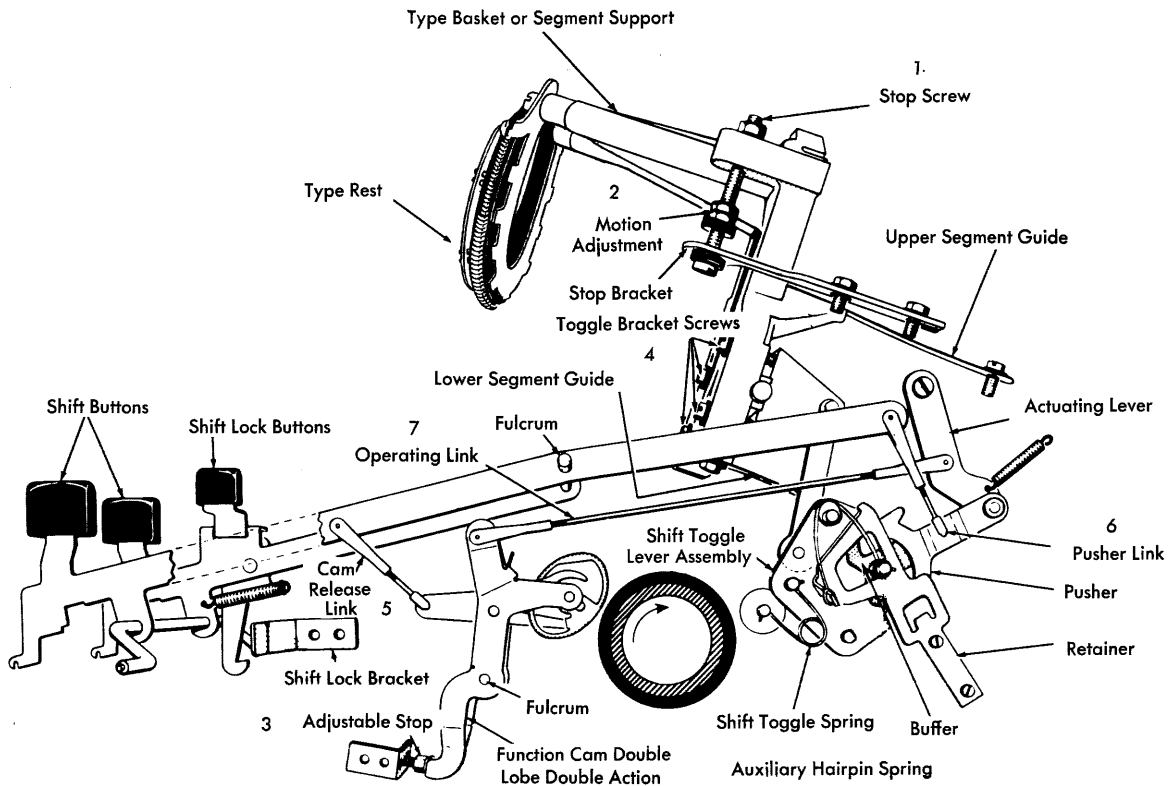

Figure 54. Shift Adjustment
1. Adjust the shift stop screws so that the type impressions of the lower case characters appear even on the top and bottom. The screws should be set so that the basket rests evenly on both the right and left stop washers (Figure 54).
2. Adjust the motion by the pair of locking nuts on each stop screw so that the upper case characters print on the same line as the lower case. Again the basket should rest evenly on both the right and left stop washers (Figure 54).
3. Adjust the cam stop until the cam clears the power roll enough so that, when tripped with the power off, the cam release lever falls behind the cam lug by an amount equal to the thickness of the cam lug (Figure 54).
side increases the clearance on the top pin and closes the clearance on the bottom pin. A bind may result if both brackets are not adjusted evenly (Figure 54).
5. Adjust the cam release link so that the cam is released when the key-lever is depressed $\frac{2}{3}$ of its downward travel (Figure 54).
6. Adjust the pusher link to such a length that the upper edge of the upper pusher arm is about in line with the top of the upper pin of the actuating plate at the instant the cam is released (Figure 54). This adjustment should allow the lower arm to safely engage the lower pin when the key-lever restores to its upper position.
7. Adjust the operating link so that the pusher clears the pins by $\frac{1}{32}$ " to $\frac{1}{16}$ " (Figure 54). The amount of pin clearance and the power roll speed directly affect the action of the buffer. The higher tolerance usually provides a smoother, quieter shift action.